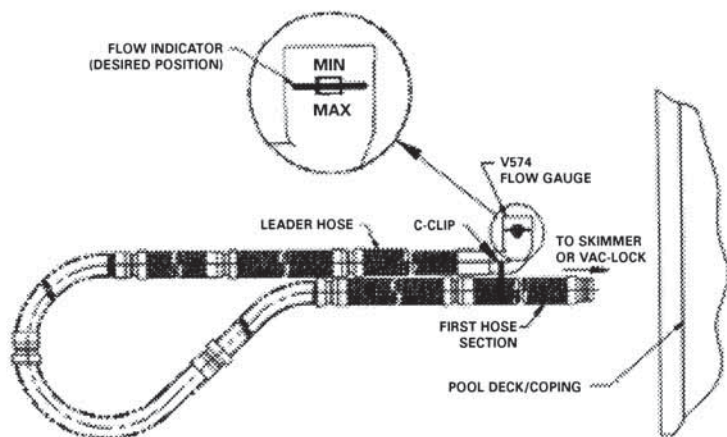
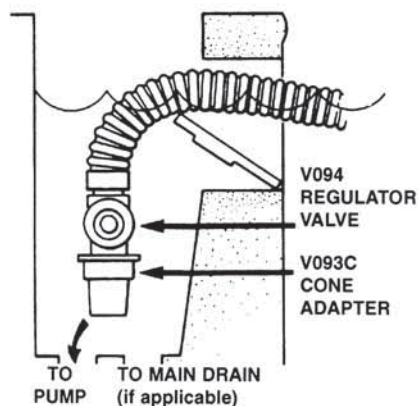

Figure 2
Figure 4
The hose should reach from the skimmer or Hayward Vac Lock® to the furthest point in the pool, **plus two (2) extra hose sections**. (The length of each hose section is four feet.) **This extra length is absolutely necessary for proper operation of the Navigator.** If the hose is not long enough, it will be necessary to purchase additional hose sections from your Hayward Navigator dealer. The hose length supplied (40 feet) has been determined to be sufficient for the majority of pools nationally. If your hose requirement is more than this, you must obtain additional hose sections for your cleaner to work properly. After the correct hose length has been assembled, fill hose completely with water. Insert Flow Gauge into the leader hose, then attach the C-Clip of the gauge onto the first hose section. Make sure the Flow Gauge is under water. (see Figure 2)
Check the water flow reading on the Flow Gauge. (Refer to Step 4, Figure 2). The black disk should be in the box between the "MIN" and "MAX" markings. If the setting is higher than required with the black disk outside of the box on the "MAX" side and you have connected your hose to the skimmer, it will be necessary to reduce the vacuum/water flow by using a valve or valves in the filter system, or the Hayward V094 Regulator Valve or an optional Hayward Automatic Skimmer Vacuum Plate designed to adjust vacuum/water flow. To install the V094 Regulator Valve, turn the filter system off. Remove the hose from the V093C Skimmer Cone, and after closing the Regulator Valve (Rotate the blue collar clockwise/toward + until closed/tight), insert the Regulator Valve into the Skimmer Cone, and insert the hose end into the Regulator Valve (see Figure 4).
If you have connected your hose to the Hayward Vac Lock, it will be necessary to adjust the vacuum/ water flow using the 3-way valve at the filter system. The handle on the valve should be turned so that the Flow Gauge which is installed in the Navigator hose reads properly (refer to Figure 2). After the 3-way valve has been properly adjusted, **the vacuum gauge at the 3-way valve should be marked so that the water flow can be adjusted by referring to the gauge at the valve**, rather than reinstalling the Flow Gauge in the hose each time an adjustment is necessary.
Some skimmers have two (2) holes in the bottom. There might be a valve, float or cover over the holes. Remove everything in the skimmer, exposing the holes. The rear hole is usually the suction port. In some cases it will be necessary to use the V094 Regulator Valve to control water flow through the Navigator (see Figure 4).